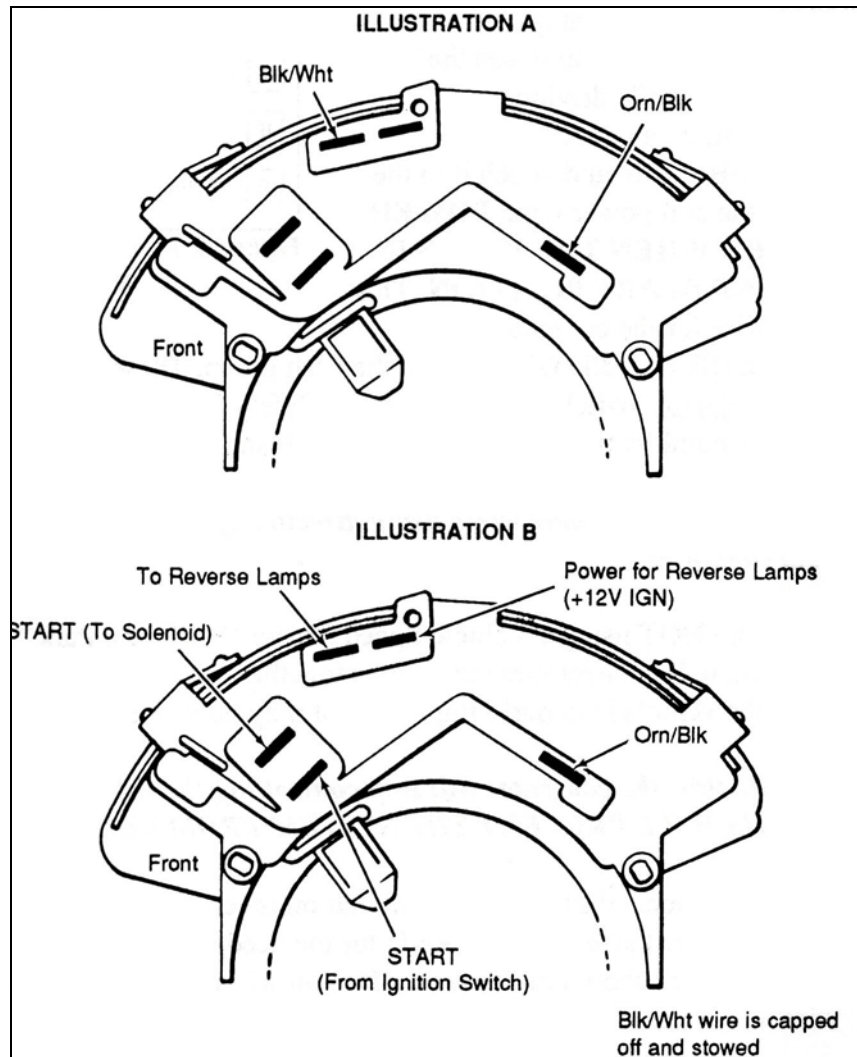

Figure 6.4 A &B Neutral Safety Switch
- 6.1.4** Locate the Orn/Blk and Blk/Wht wires in the dash group. These two wires are for the Park/Neutral Selector Switch, NOT the Neutral Safety Switch. If you have a GM column then you can use the combination switch P/N 15679680 and wire it as shown in **FIGURE 6.4**.
- 7.4.2** Purple wire tagged BRAKE SWITCH attaches to the brake switch shown in **FIGURE 6.4**